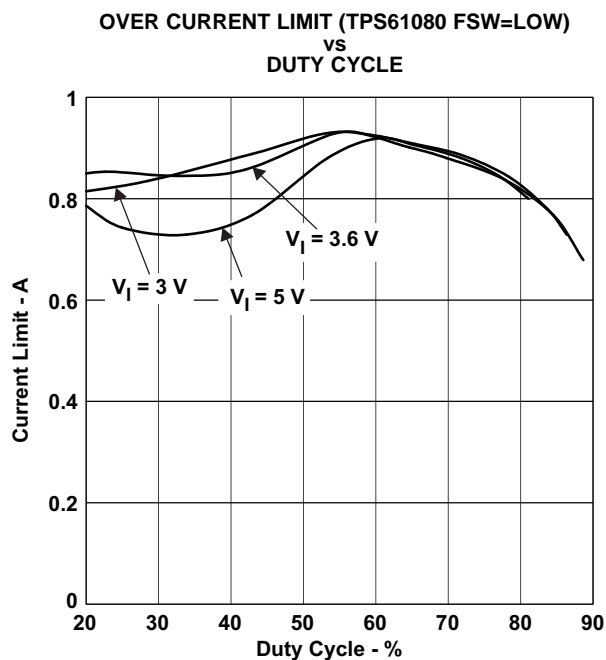
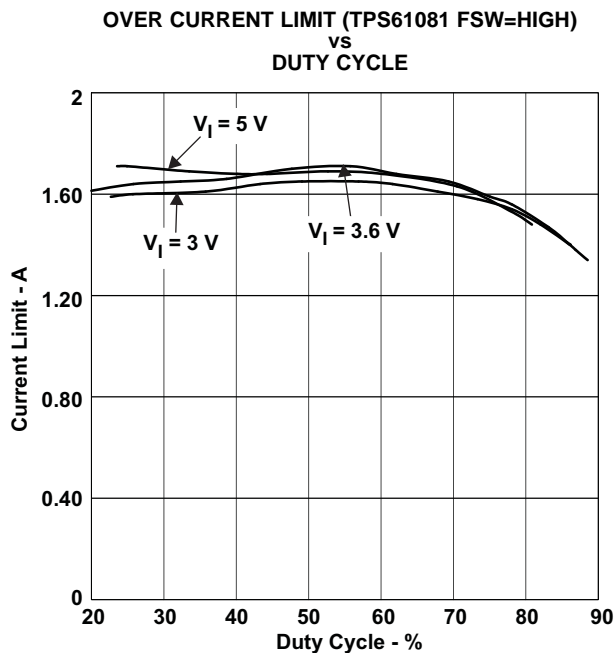

Figure 6.
Figure 9.
(1) V_{IN} = 3.6 V, V_{out} = 15 V, Duty cycle = 76%. See Figure 6 to Figure 9 for other operation conditions.
(2) OUT short circuit condition is detected if OUT stays lower than V_{IN} – V_{sc} for 2 ms after IC enables.
To minimize the variation in the overcurrent limit threshold, the TPS61080/1 uses the VIN and OUT pin voltage to compensate for the variation caused by the slope compensation. However, the threshold still has some dependency on the VIN and OUT voltage. Use Figure 6 to Figure 9 to identify the typical over-current limit in your application, and use 25% tolerance to account for temperature dependency and process variations.